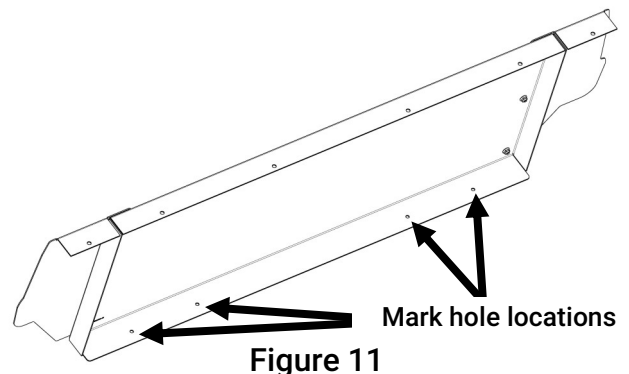

Figure 11
- A. With the front panel in its final position, mark the locations of the (4) holes in the bottom of the front panel (Fig 11).